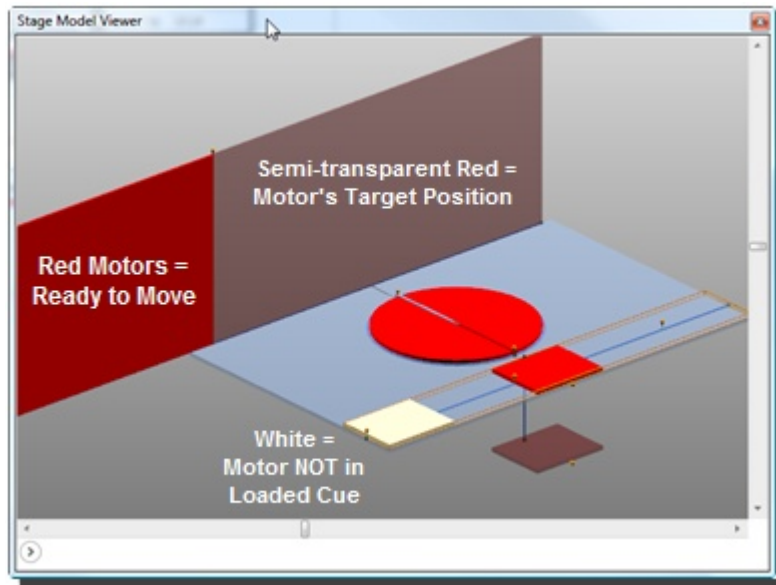

Figure 248
- The motor(s) that will move in the loaded Cue change to red and their target position(s) are shown in semi-transparent red inside the **Stage Model Viewer** (Figure 248). *Note that the Turntable's target position in the example below is the thin, semi-transparent red line that sits down stage, nearest the lift.*